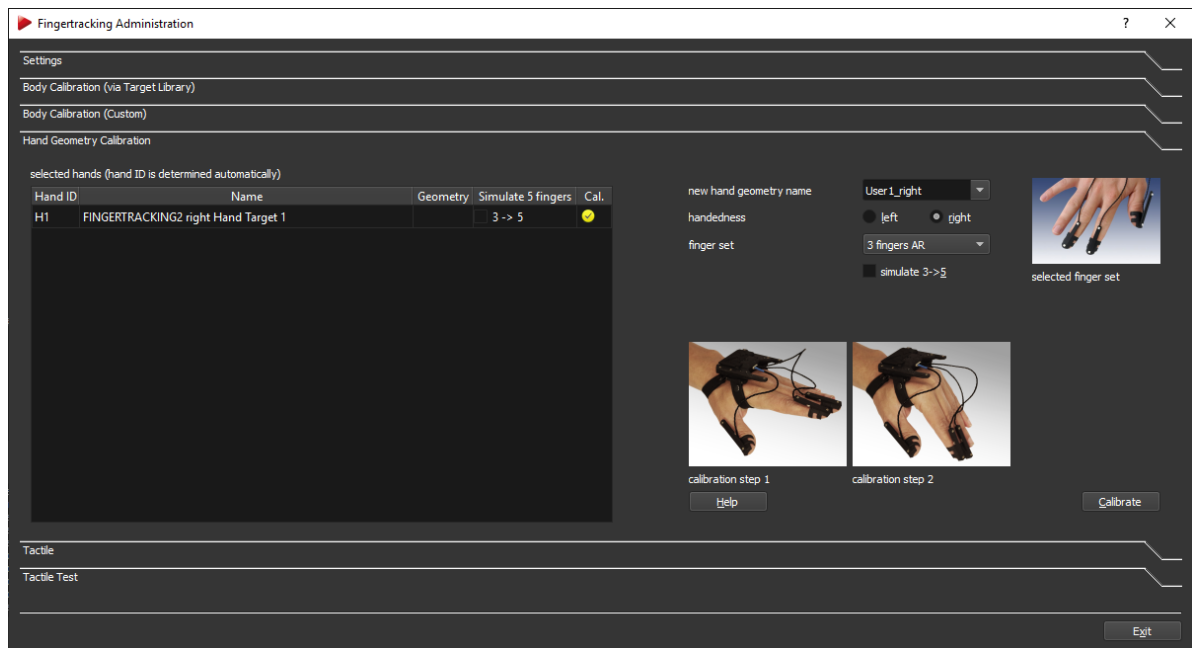

Figure 9.39: Fingertracking Administration - Hand Geometry Calibration
- all fingers have to be stretched out (see left picture in dialog, refer to figure 9.39 on page 144)
- keep the fingers stretched out (see right picture in dialog, refer to figure 9.39 on page 144)